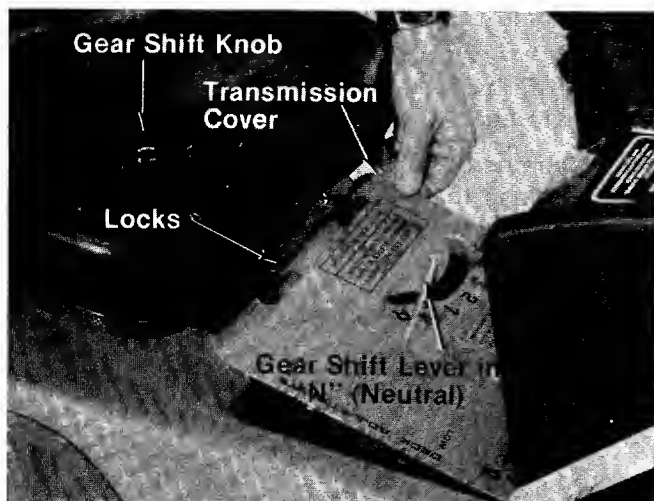

FIGURE 8.
1. Place the shift lever in the "N" (neutral) position. Remove the gear shift lever knob. See figure 8.
2. Push down and turn the locks on the transmission cover. See figure 8.
3. Lift out the transmission cover. See figure 8.